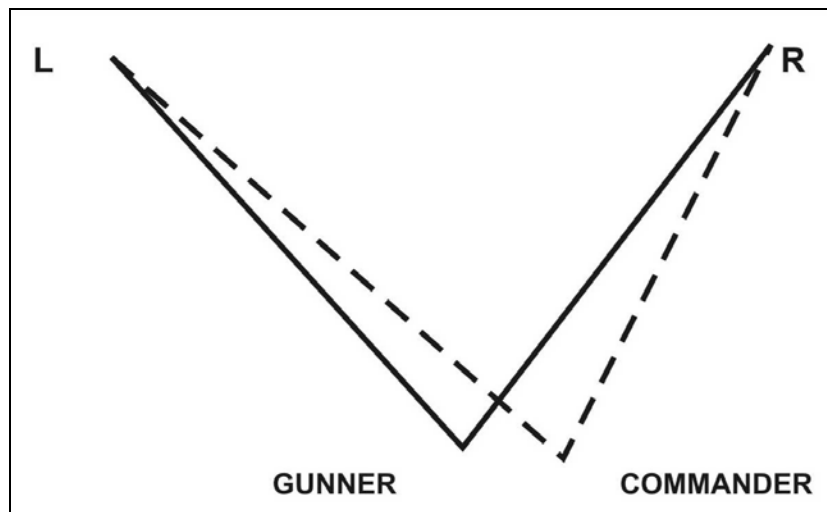

Figure 6-7. Overlapped sectors.
(1) **Overlapped Sector.** The gunner scans the whole sector, left to right, near to far, using the IBAS or ISU. The commander also scans the whole sector (the same sector), but he scans right to left and far to near. He uses the CIV, binoculars, or NVDs to ensure coverage of the entire sector (Figure 6-7).